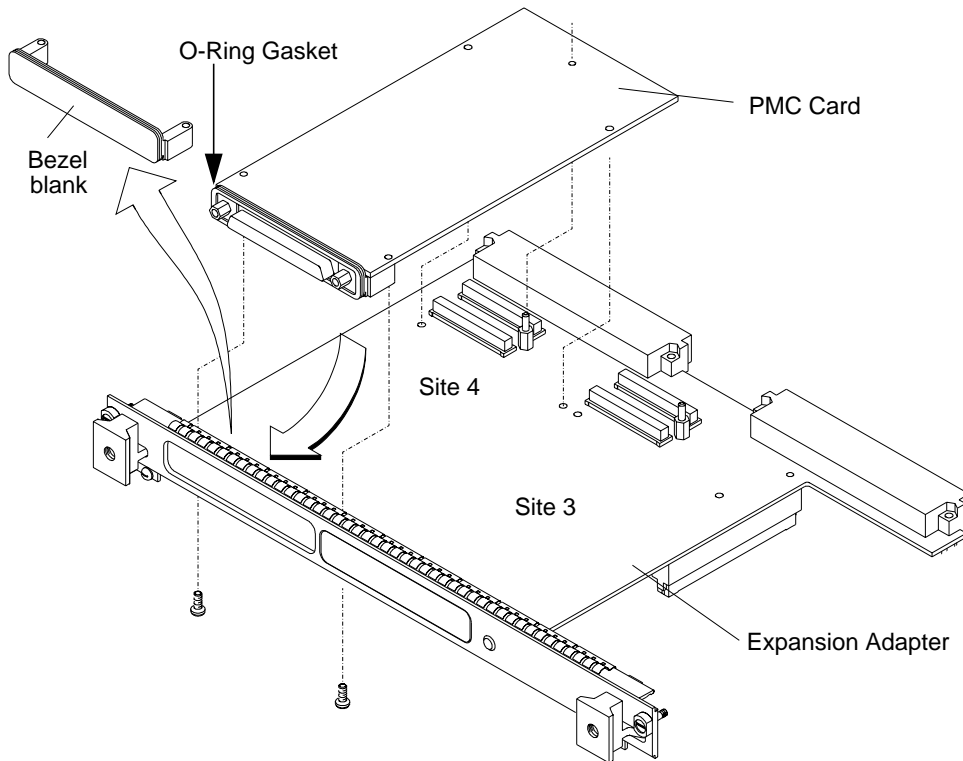

Figure 2-7
- 5 On the PMC expansion adapter, remove the bezel blank(s) from the sites where you will be installing the PMC card(s). See Figure 2-7.
keying pin. See Figure 2-7.